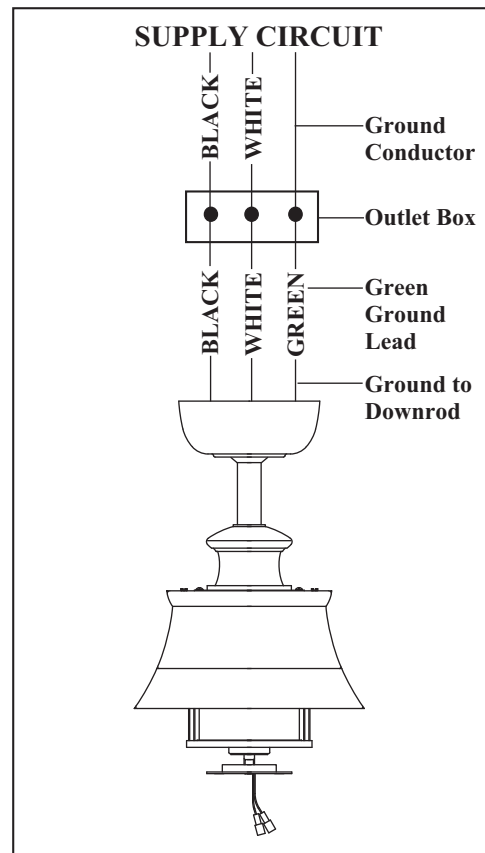

Figure 9
1. Connect the fan supply (black) wire to the black household supply wire as shown in Figure 9.
2. Connect the neutral fan (white) wire to the white neutral household wire. (Fig. 9)
3. Connect the fan ground wire (green) to the household ground wire.(Fig. 9)